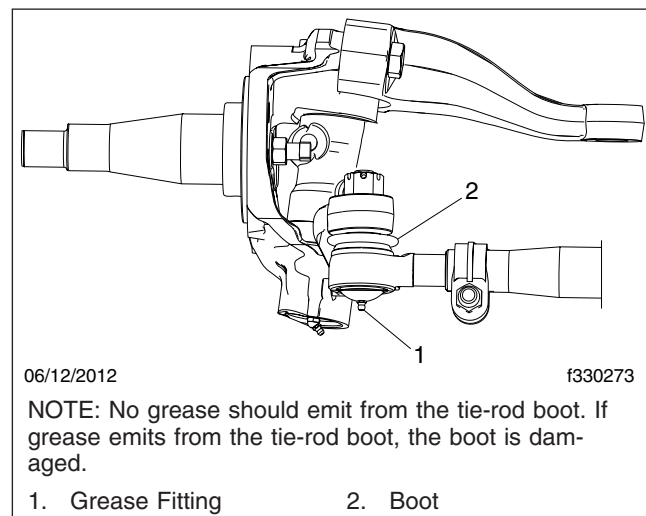

Fig. 5, Grease Fitting and Boot (Detroit axle shown)
2. Pump multipurpose chassis grease, NLGI Grade 1 (6% 12-hydroxy lithium stearate grease) or NLGI Grade 2 (8% 12-hydroxy lithium stearate grease), into the tie rod ends until all used grease is forced out and fresh grease is seen at the ball stud neck. See Fig. 5.